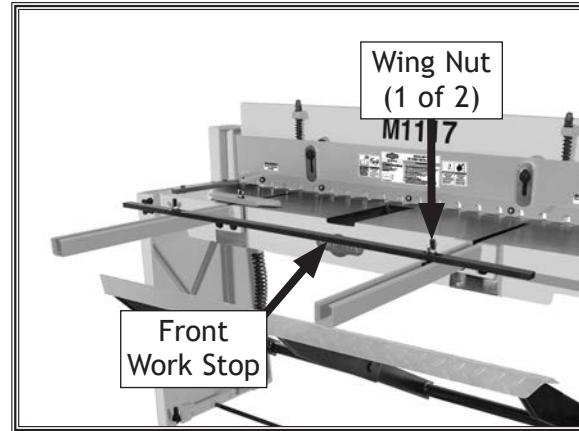

Figure 19. Location of front work stop wing nuts.
1. Loosen (2) front work stop wing nuts (see Figure 19).